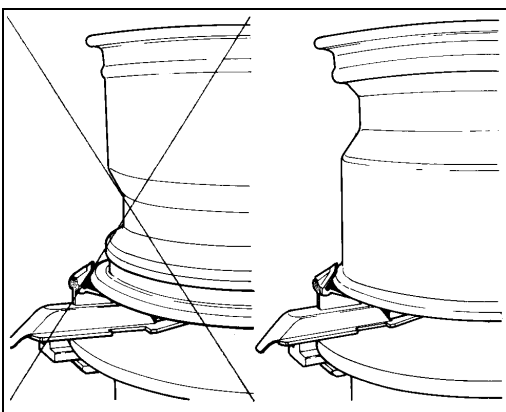

Fig. 13
D. Liberally lubricate both beads. Place the wheel **WITH DROP CENTER UP** (Fig. 13) on the turntable, and clamp in position. Hold the tire and wheel down while clamping.